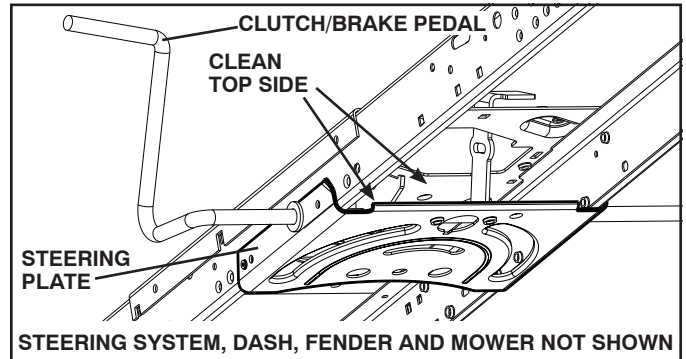

Fig. 30
- Clean debris from steering plate. Debris can restrict clutch/brake pedal shaft movement, causing belt slip and loss of drive. See Fig. 30.